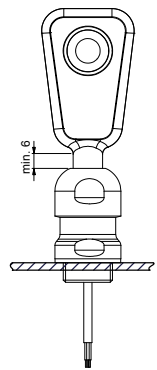

Fig. 5: Mounting of pms sensor with sensor screw connection BF-pms/A1
- The D12 adapter shaft of the pms sensor has to stick out at least 6 mm from the screw connection (see figure 5).